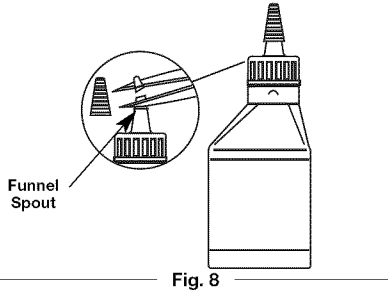

Fig. 8
Your unit is supplied with one 3.04 fluid oz. (90 ml.) bottle of SAE 30 SF, SG, SH oil (Fig. 8).
**NOTE:** Save the bottle of oil. It can be used to measure the correct amount during future oil changes (Fig. 8). See *Changing the Oil*.